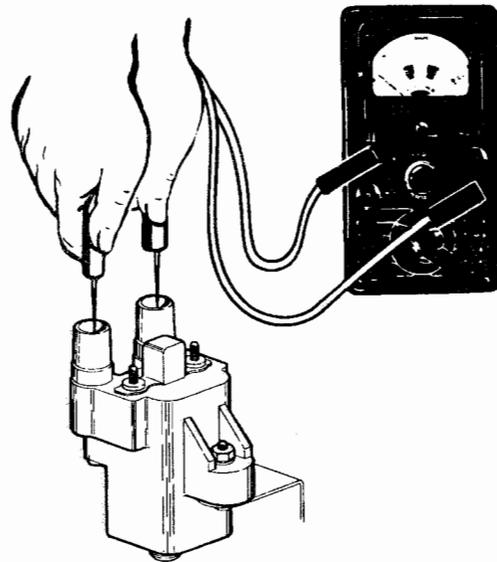

FIGURE 6-8. TESTING THE IGNITION COIL
6. Measure secondary coil resistance (across the spark plug cable terminals). Replace the ignition coil if secondary resistance is not between 14,000 and 30,000 ohms. See Figure 6-8.